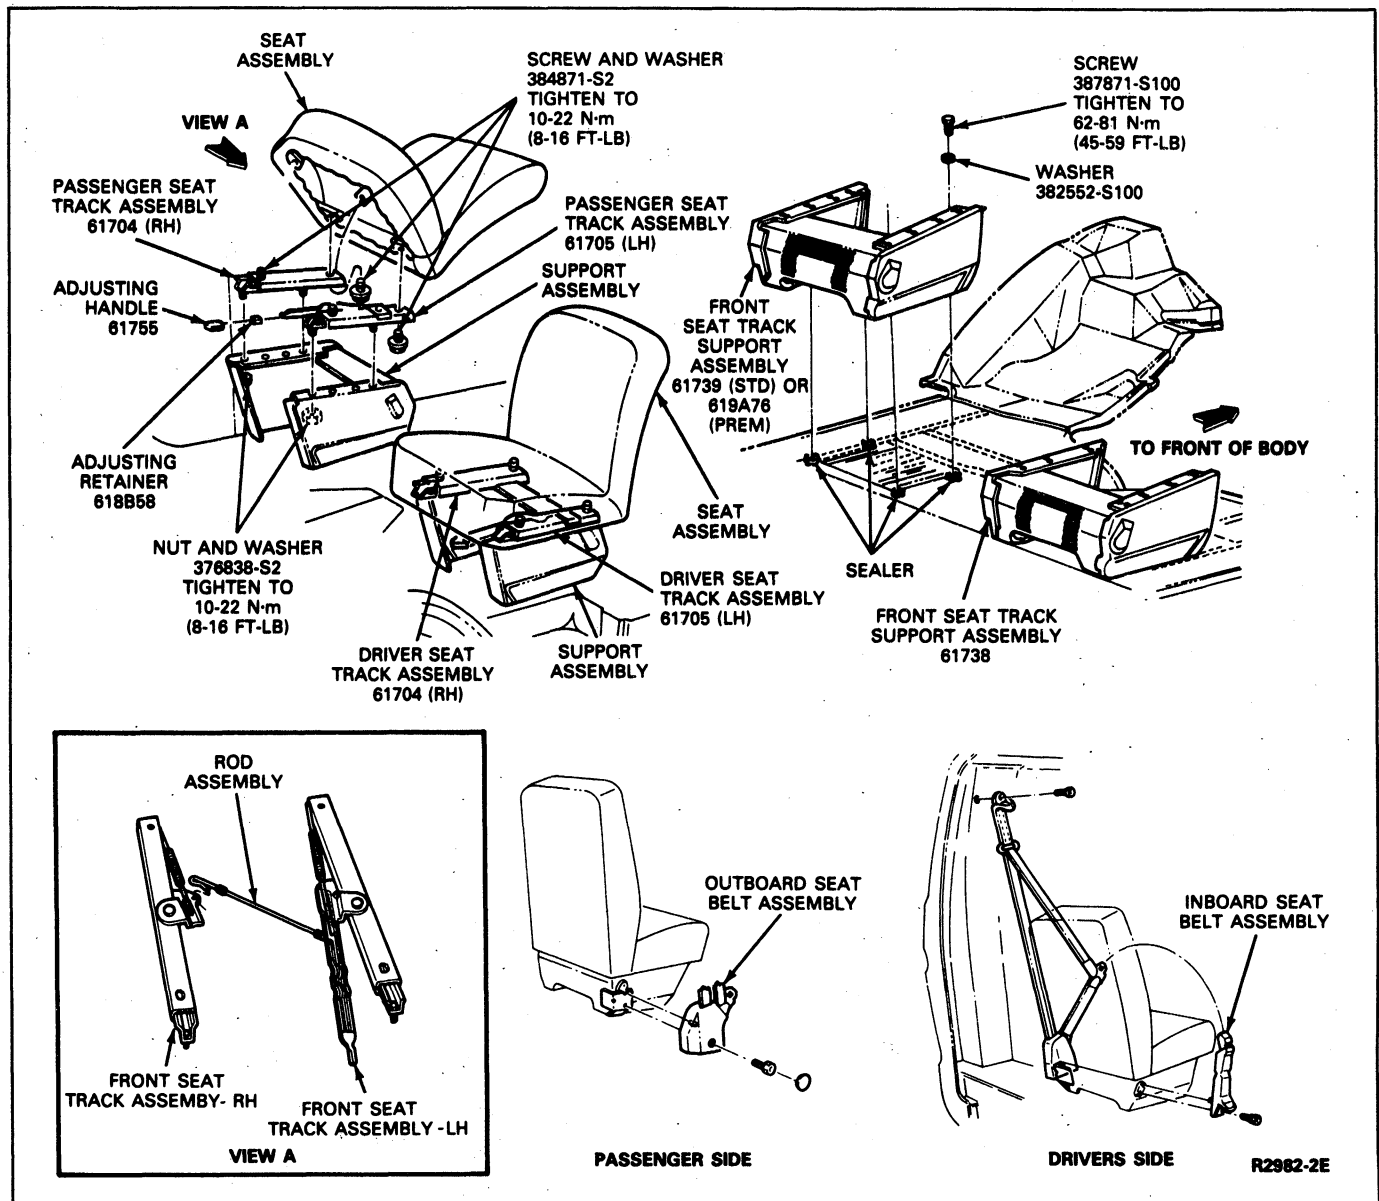

FIG. 4 Bucket Seat and Track Installation—E-150—E-350
Refer to Fig. 4.
1. Remove four seat track-to-support nuts and washers and lift the seat and track assembly from its support as outlined (Fig. 4).